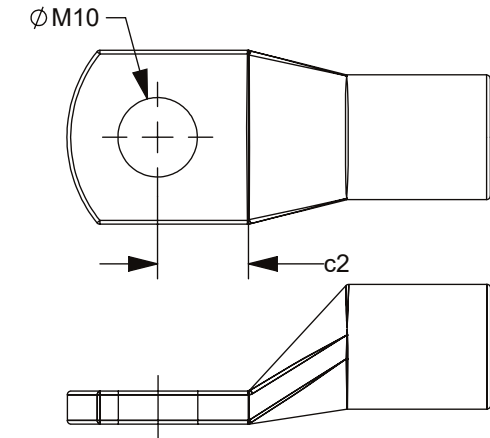

FIGURE 1
2. ASSEMBLE THE ISOLATED BOLT, M10 RING TERMINAL, & M10 ZCASE TO THE BASE ASSEMBLY. SECURE THE BOLT TO  $16 \pm 2$  N·m. BE SURE THE RING TERMINAL DIMENSIONS MATCH THE FOLLOWING REQUIREMENTS (FIGURE 1):